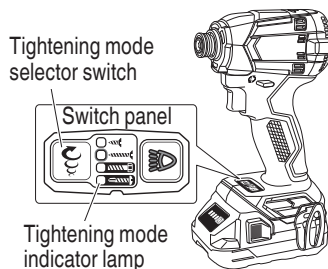

Fig. 14
9. Tightening mode selector function (Fig. 14)